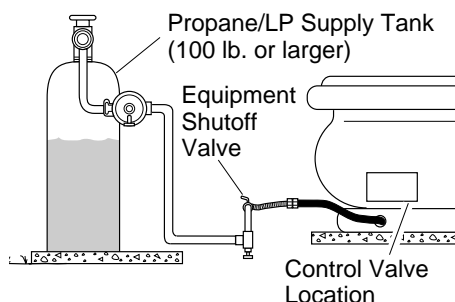

Figure 7 - Checking Gas Joints
3. Check all joints from propane/LP supply tank to equipment shutoff valve (see Figure 7). Apply mixture of liquid soap and water to gas joints. Bubbles forming show a leak.